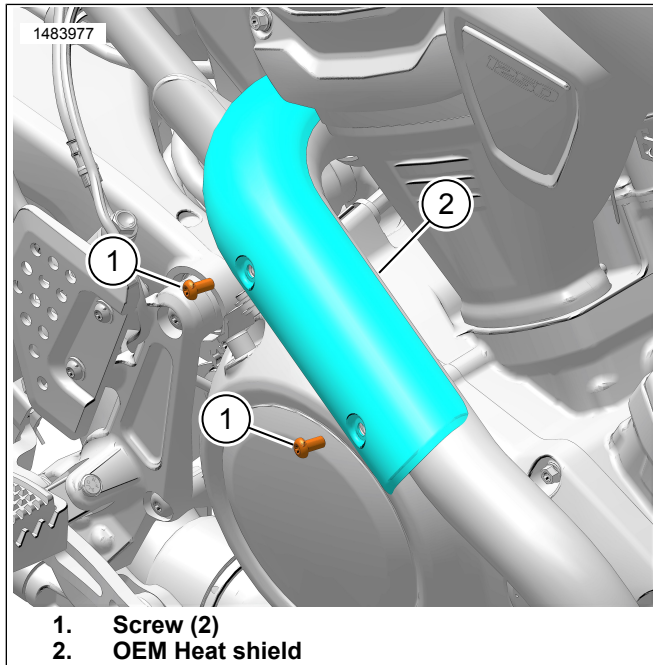

Figure 2. OEM Heat Shield
1. Figure 2 Remove and discard screws (1).
2. Remove OEM heat shield (2).